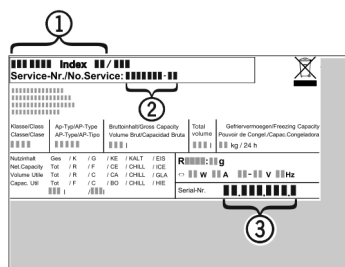

Fig. 11
- Read the appliance designation Fig. 11 (1), service No. Fig. 11 (2) and serial No. Fig. 11 (3) off the model plate located inside the appliance on the left-hand side.
- Notify the customer service, specifying the fault, appliance designation Fig. 11 (1), service No. Fig. 11 (2) and serial No. Fig. 11 (3).